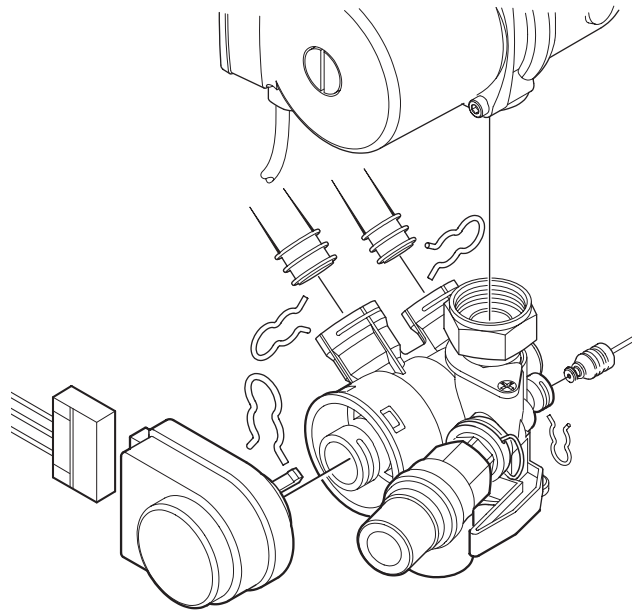

Fig. 63
- ▶ Unplug connector from 3-way valve motor. Refer to fig. 63.
- ▶ Disconnect the capillary head from the rear of the diverter valve by withdrawing the clip and pulling out the head. Refer to fig. 63.